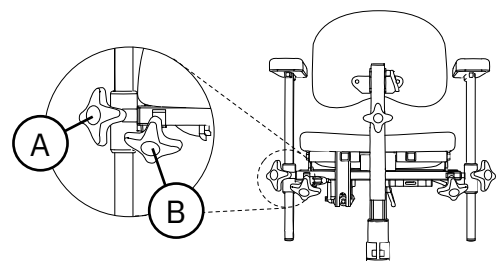

Figure 5.34. PLUS armrest.
The PLUS armrest is adjustable in height (A) and width (B), see Figure 5.34.